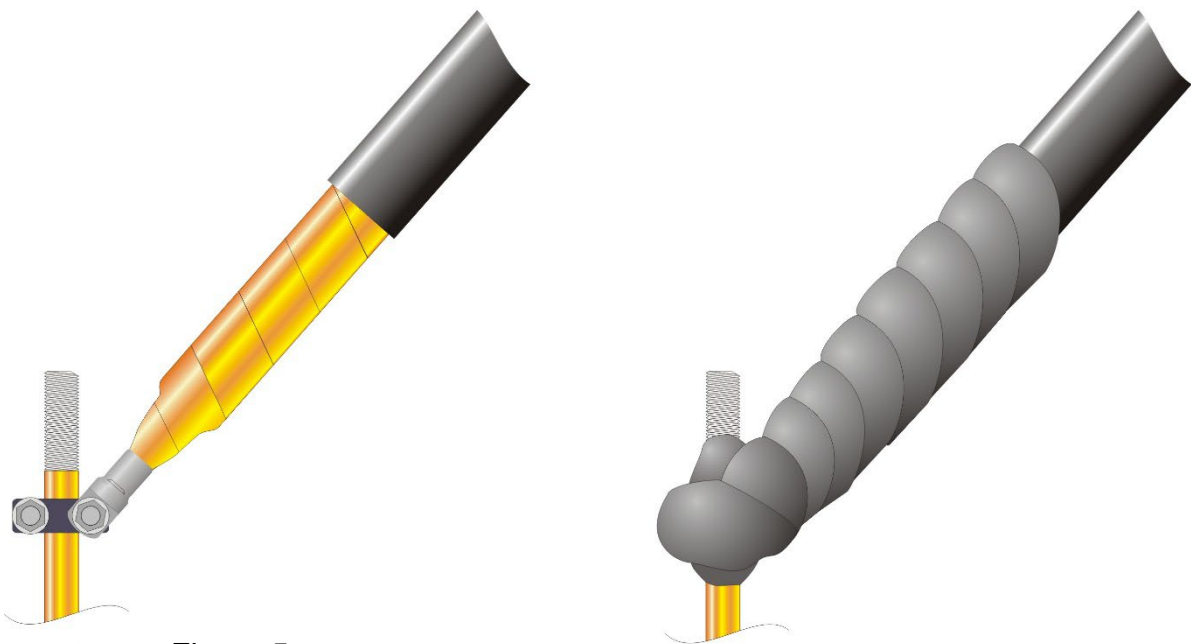

Figure 5.
7. Connect the crimp lug to the earthing system using the supplied U-bolt earth clamp if necessary (Fig 5). Ensure the connection is aligned correctly and tightly secured using a 17 mm spanner, socket or shifting spanner.
8. Use the waterproofing mastic tape to completely cover all exposed conductive areas of the lower termination and to seal the termination from moisture ingress where it connects to the earthing system (Fig 5).